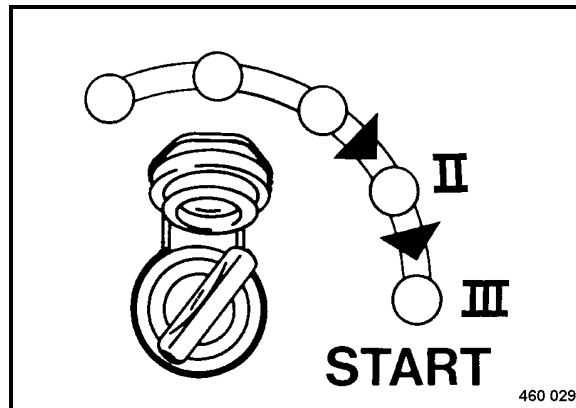

Fig. 58
- Turn the ignition key (Fig. 58) through position "II" to position "III", the starter will crank the engine.